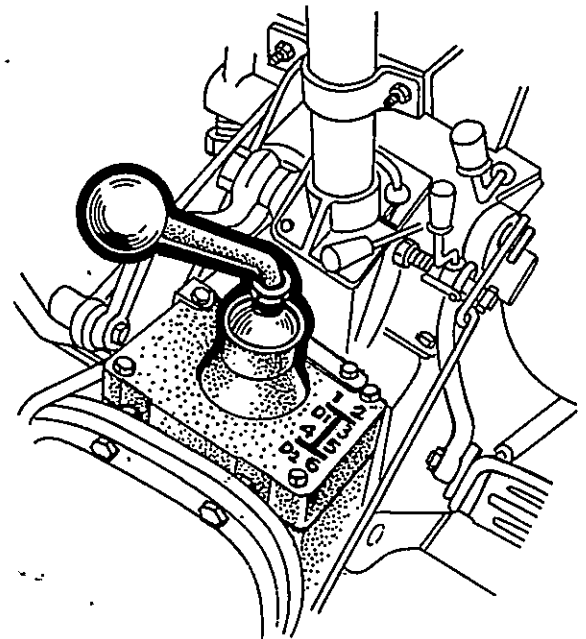

Fig. 3-9
f. Put the shift lever of transmission, the control lever 1 of the hydraulic pump, the control lever of the P. T. O. shaft 2 and the control lever of the sliding gear of the transfer box 3 at the neutral position. (see Fig. 3-9, Fig. 3-10)